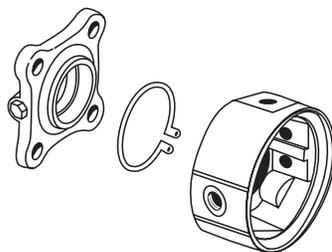
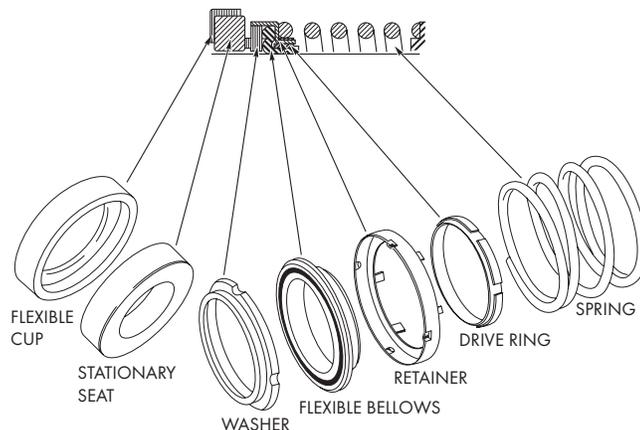

Fig. 16 1520 Water Jacket Removed.
Fig. 25 Mechanical Seal (optional)
The mechanical seal (see Figure 25) is a precision product and must be treated as such. During removal, great care must be taken to avoid dropping any part of the seal. Take particular care not to scratch the lapped faces on the washer or the sealing seat. If any wear of the seal faces is noted, it is recommended to replace with a new seal during reassembly.
11. For Models 1550, 1530, 1520: The water jacket (optional – 18) may now be removed by snapping retaining ring (17) off cover (26). Note position of water jacket to assure proper alignment during reassembly. (See Figure 16.) Slide water jacket(18) off cover (26) taking care not to damage gaskets (19 and 19A). Remove gaskets (19 and 19A).
12. On Model 1520/2520, remove capscrews (39 and 62) and washers (40 and 63) to take off supports (41 and 64). On Model 1550/2550 frame sizes 143 thru 184 JP only, unscrew capscrews (39) and remove washers (40) and support (41) from bracket (35).
13. Unscrew capscrews (32) to remove bracket (35) from frame (57) on Model 1520/2520 or motor on Models 1550/2550 and 1530/2530.
14. For Models 2550, 2530, 2520: The seal flexible cup and stationary seat should be pressed out of the bracket (35) and the cavity cleaned of all residue. Make sure that the 1/32" radius in the seal seat cavity is not damaged during disassembly since a sharp edge can easily cut the flexible cup during reassembly.
15. Remove key (42) from the shaft and remove slingers (47). (1520/2520)
16. Unscrew capscrews (48) and remove bearing cap (49). Remove gasket (50) and retainer ring (52). Slide out shaft (55) and bearings (53 and 54). Since bearings (53 and 54) are press fitted on the shaft, they will have to be pulled or pressed off the shaft. Remove grease seals (51) from frame (57), and bearing cap (49). (1520/2520)
17. Remove screws (33) and nameplate (34) only if replacement is necessary. (1520/2520)
1. Press grease seals (51) into frame (57) and bearing cap (49). (1520/2520)
2. Press bearings (53 and 54) onto shaft (55). Snap retainer ring (52) into place. (1520/2520)
3. Slide shaft (55) and bearings (53 and 54) into frame (57) and place gasket (50) in place. (1520/2520)
4. Fasten bearing cap (49) in position with capscrews (48). Position slingers (47) on the shaft. (1520/2520)
5. For Models 2550, 2530, 2520: The mechanical seal (27) (see Figure 25) cannot be installed as an assembly. It is necessary to have the seal seat properly in place in bracket (35) before the balance of parts can be added. Thoroughly inspect the seal cavity in seal bracket, checking for burrs or nicks which could damage flexible cup of mechanical seal. Apply a film of liquid dishwashing detergent (do not use oil or grease) to the flexible cup and seal seat. Insert seat in cup and install in seal bracket, taking care to seat it evenly and squarely.
6. On Model 1520/2520, position bracket (35) on the frame (57) and secure with capscrews (32). Tighten screws evenly to assure proper alignment. On Models 1550/2550 and 1530/2530, position bracket (35) on the motor and secure with capscrews (32). Tighten screws evenly to assure proper alignment. On Model 1550, frame sizes 143 to 184 JP only, fasten support (41) to bracket (35) with washers (40) and capscrews (39).
7. If nameplate (34) was removed, install and attach with screws (33).
8. Replace wear ring(s) (7 and 16) in casing (6) and cover (26). Rings should not be hammered into place. Use a press, or clamp the parts in a bench vise, using wooden blocks to protect the rings. It may be necessary to pin or dowel the rings after assembly if the cover or casing has had rings replaced before, since each reassembly can stretch or tear metal and thereby loosen the fits. If the facilities are available, it is good practice to take a very light finish cut or to ream the inside diameter of the casing rings after pressing to restore roundness. When rings are pressed, they may get squeezed out of shape.
9. Coat the mating surfaces of impeller wear ring(s) (optional – 14 and 15) and impeller (11) with Loctite sealant grade 271. Replace wear rings, using the same care as for the case wear ring(s). If the rings are to be trued on a lathe, do not clamp the impeller so tightly that it is permanently distorted.
10. For Models 1550, 1530, 1520: If water jacket (optional – 18) was removed it may be replaced at this time. Replace gaskets (19 and 19A) on cover (26) and carefully slide on water jacket making sure desired alignment is achieved. (See Figure 16.) Snap retaining ring (17) behind water jacket (18) in groove provided on cover (26).
The mechanical seal (27) (see Figure 25), should not be installed as an assembly. It is necessary to have the seal seat properly in place before the balance of parts can be added.
- A. Wipe the sealing faces of the seat and seal washer clean. Apply a film of liquid dishwashing detergent (do not use oil or grease) to the flexible bellows in the rotating assembly and shaft sleeve (25). Slide the entire rotating assembly onto the sleeve, making sure that the carbon washer faces away from the step in the sleeve.
- B. Thoroughly inspect the gland (23), checking for burrs or nicks which could damage flexible cup of mechanical seal. Apply a film of liquid dishwashing detergent (do not use oil or grease) to the flexible cup. Insert seat in cup and install in gland (23). NOTE: If it is not possible to insert seat with fingers, place cardboard protecting ring furnished with seal overlapped face of seat and press into place with a piece of tubing having end cut square. The tubing should be slightly larger than the diameter of the shaft. Remove cardboard after seat is firmly in place. Carefully slip the seal gland assembly (23) over the shaft with the stationary seat facing away from the motor. Insert gasket (66) over shaft.
- C. The shaft sleeve with the seal rotating assembly on it may now be replaced on the shaft. Carefully slide the seal gland (23) and gasket (66) onto the sleeve before seating the sleeve (25) against the shaft shoulder.
- D. Carefully slip cover assembly (26) over the shaft into its original position and secure with either capscrews (20 or 5).
- E. Position seal gland (23) and gasket (66) onto the cover (26) taking care to seat it evenly and squarely. Secure by tightening capscrews (65) evenly. Spring tension will probably prevent the sleeve from remaining in position axially until impeller is locked against it.
11. For Models 2550, 2530, 2520: Wipe the sealing faces of the seat and seal washer clean. Replace pin (61) in sleeve if it was removed during disassembly. Apply a film of liquid dishwashing detergent to the washer and bellows of the seal and slide the remaining seal parts onto the sleeve, making sure the washer is seated against the seal seat. Check the proper sequence of assembly as indicated in Figure 25. The shaft sleeve with the seal rotating assembly on it may now be replaced onto the motor shaft. Spring tension will probably prevent the sleeve from remaining in position axially until the impeller is locked against it.
12. Carefully place gasket (10) on motor end of impeller. Assemble key (12) and impeller (11) to motor shaft. Secure impeller with gasket (9B), washer (9A), capscrew seal (9C) and impeller screw (9).
13. On Model 1520/2520, fasten the supports (41 and 64) to bracket (35) and frame (57) with washers (40 and 63) and capscrews (39 and 62).
14. Install the pipe plugs (4) in the pump casing (6). Position gasket (8) and casing (6) against the cover (26) and secure with capscrews (20 or 5).
15. Reassemble sealing tube assembly (optional – 69, 70, 71, and 76) in water jacket (optional – 18) as shown in Figures 16 and 19. Replace all relief, cooling, flushings, or drain lines from the pump including compression connections (1 and 2) and tubing (3). On Model 1530/2530, position gasket (72) and set pump assembly in place. Tighten pump to base (73) with capscrews (39). Replace plugs (74 and 75). Replace all grease fittings, pipe plugs, tube vents and oiler assembly for oil lubricated units.